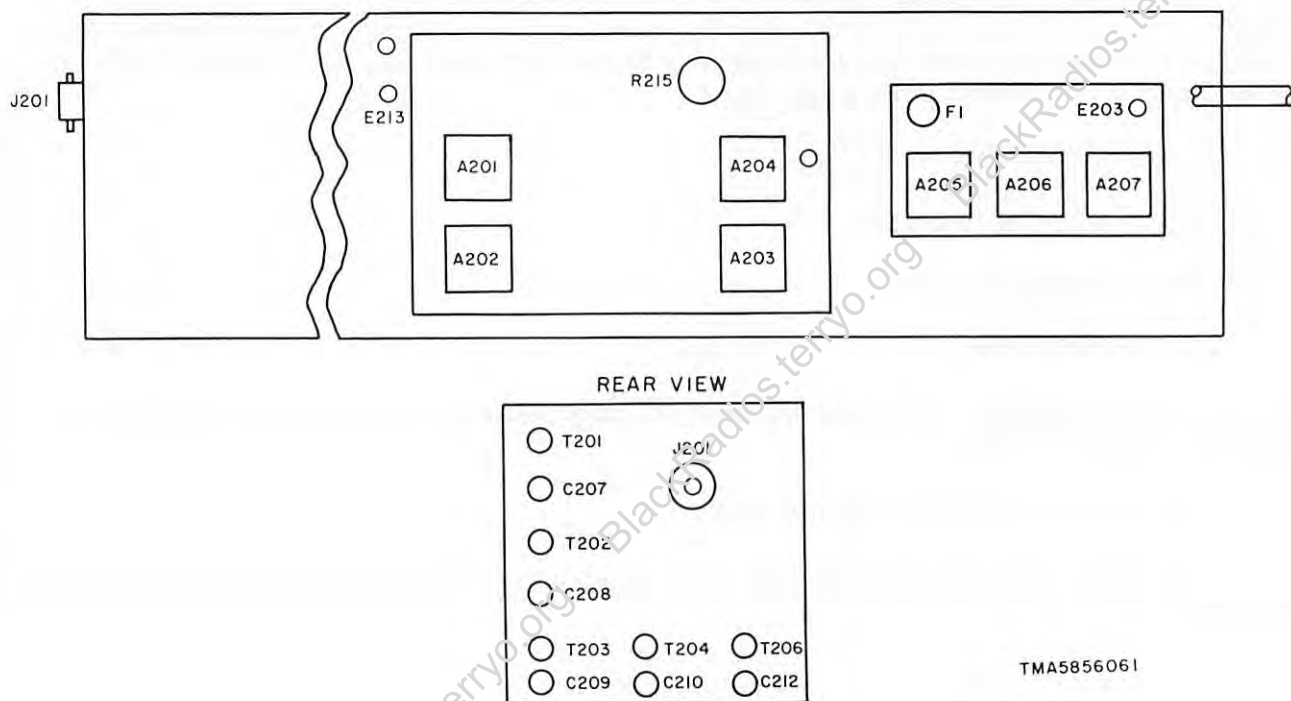

FIGURE 7-9 RF UNIT ALIGNMENT PARTS LOCATION
7-10. RF Unit Alignment (fig. 7-9)
- (4) Connect the signal generator to J201 (fig. 7-9).
- (5) Connect the RF voltmeter to E203.
- (6) Connect the VTVM to E213. An indication of -4 volts DC should be obtained on the VTVM.
- (7) Adjust the signal generator for a frequency of 37.5 MHz with an output of 10 millivolts.
- (8) Adjust A205 and A207 for a minimum indication on the RF voltmeter.
- (9) Adjust the signal generator for a frequency of 47.0 MHz, and adjust A206 for minimum on the RF voltmeter.
- (10) Connect the RF voltmeter to E207.
- (11) Adjust the signal generator for a frequency of 30 MHz.
- (12) Adjust A201, A202, A203, and A204 for a maximum indication at 30 MHz on the RF voltmeter, the output should be down 40dB at 40 MHz.
- (13) Tune the signal generator from 29.5 to 30.5 MHz, and check to see that the output indicated on the RF voltmeter does not vary more than 4 dB.
- (14) Adjust the signal generator to a frequency of 5.5 MHz with an output of 3 millivolt. The indication on the RF voltmeter should be greater than 30 millivolts.